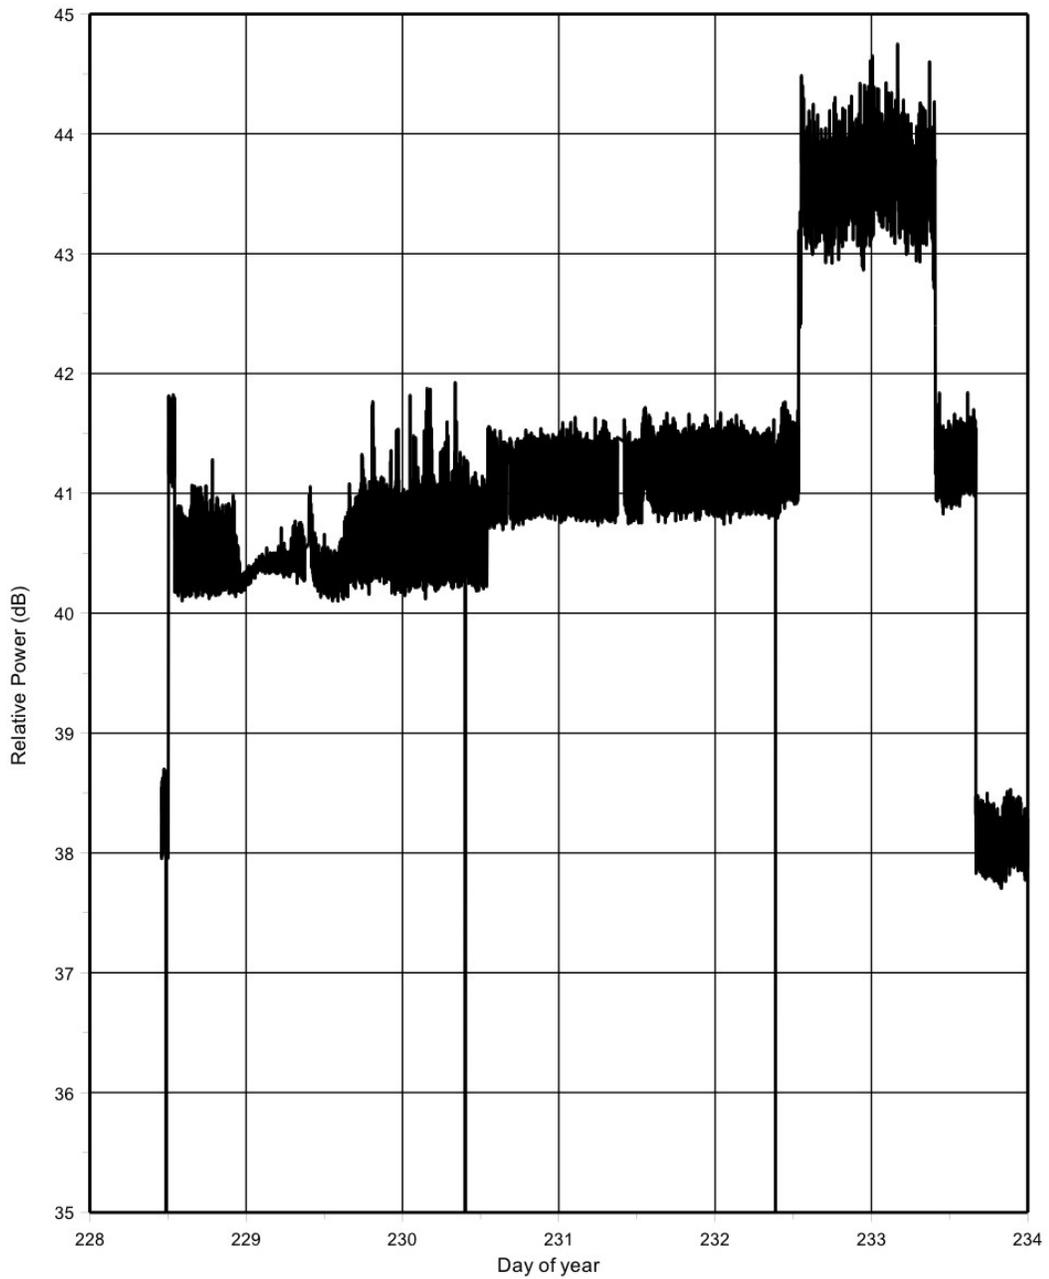

Figure 5. Average noise levels for the low mode of the 449 radar.
3. I looked at the noise (using my routine pdanoiseavNREL) on part of day 233 on the 449. It looks like the interference was causing a 2 dB increase in the the noise level. This would reduce sensitivity. Figure 5 shows the noise level, recalculated from the spectra by a program I have written for noise studies. The enhancement during 233 is very easy to spot. The drop at the end of the plot was caused by changing the number of spectral points from 128 to 256, and should be expected. The bad period of interference during days 232 and 233 showed enhanced noise of more than 2 dB. This corresponds to a degraded Signal-to-Noise Ratio (SNR) of 2 dB. I don't know the source of this interference, but changing the cable routing suggests that it was internal to our equipment. This should be examined and some work done to reduce the interference, if at all possible.